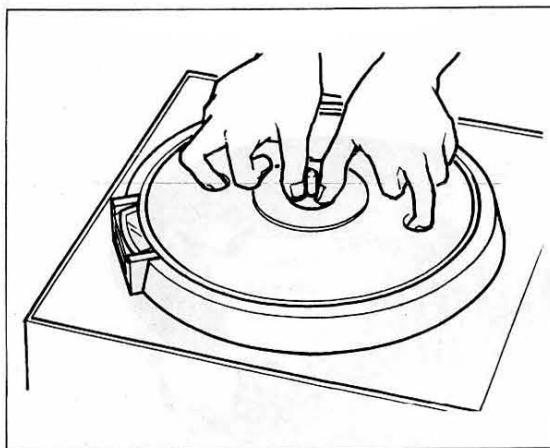

Fig. 2-2. Turntable platter removal
3. Remove the turntable by pulling it straight up as shown in Fig. 2-2.